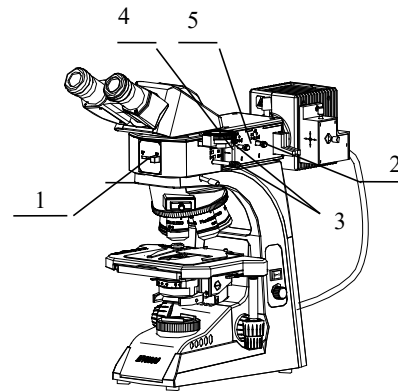

Fig.23
Slide the mirror selector lever (Figure 23,1) toward the indication of the location for the desired observation light path.
- 1) Slide the mirror selector lever (Figure 23,1) to "BF".
- 3) Pull out the FS knob (Figure 23,4) on the reflected light illuminator to reduce the aperture iris diaphragm a little.
- 4) Rotate the two FS centering screws (Figure 23,2), using the Allen screwdriver to adjust so that the field iris image becomes concentric with the field of view.
- 5) Pushing in the FS knob (Figure 23,4), open the field iris diaphragm until the field iris image inscribes the field of view. If the image is found to be eccentric, adjust the centering again.
According to the objective in use, adjust the FS knob (Figure 23,4) of the reflected light illuminator until the iris image circumscribes the field of view to block unnecessary light.
- 1). Slide the mirror selector lever(Fig.23,1) to “BF”.
- 3) Remove the eyepiece, look into the eyepiece sleeve and pull the AS knob(Fig.23,5) so that the aperture is about 70%.
- 4) If the center of the iris diaphragm is deviated, center it by rotating the two AS centering screws(Fig.23,3) using the Allen screwdriver.
The aperture must be fully opened by pushing in the AS knob(Fig.23,5)